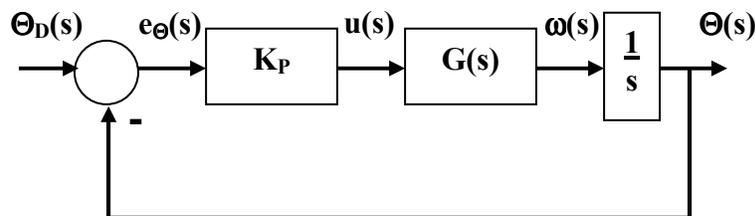
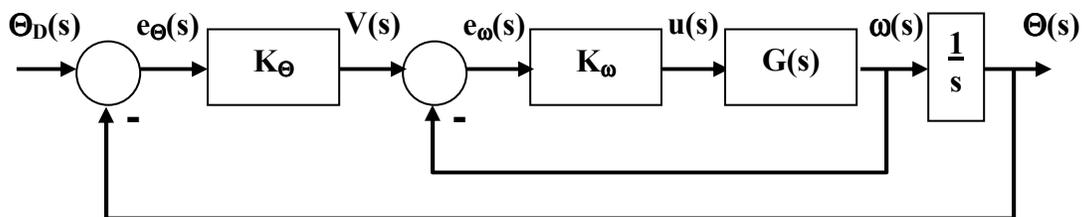

Figure 1: Single Loop Proportional Controller
Figure 2: Two Loop Cascade Position Controller
Generally speaking, when one is controlling a system with a single feedback loop (Figure 1), as controller gain is increased the steady state performance improves, the disturbance immunity improves, and the transient performance also improves. However, a value of gain is usually reached where further increases cause the transient performance to deteriorate in the sense that the controlled output—in responding so fast—overshoots the set point and may even exhibit a decaying oscillation about the set point, particularly when disturbed. Once that gain value is reached, a tradeoff exists—as gain is increased further—between a reduced steady state error and disturbance immunity on the one hand, and deteriorating transient performance on the other. If gain adjustments for a given single loop controller cannot produce both acceptable steady state error, immunity to external disturbance, and transient response, a different controller (generally more complicated, Figure 2) must be used.
You should come into the lab with a clear understanding of how to determine the closed loop transfer function for the single loop and cascade loop systems of Figure 1 and Figure 2. You should also be familiar how to construct set point profiles in Simulink.
- 1) Using the results of Experiment #2 and #4 in Figure 1, what is the transfer function $G(s) = \omega(s)/u(s)$ for the controlled system from the control $u(s)$ to velocity $\omega(s)$?
- 3) Referring to Figure 2: The velocity closed loop transfer function is $\omega(s)/V(s)$. If one
Controller: Set up a real-time control loop for controlling plate position with a two loop cascade controller as shown in Figure 2. Then first, disconnect the output of the position loop gain block, K_{θ} , to the summation block, this will allow you to tune the velocity loop separately. Use a velocity step input $V(t) = \omega_D(t) = 180 \text{ rpm}$ as the desired velocity. Use a two-input **MUX** block feeding a scope block so you can observe both the set point change and the response on the same scope. Once you think you have the proper set-up, **ASK THE INSTRUCTOR TO CHECK IT OUT BEFORE APPLYING POWER TO THE MECHANISM**. Tune the velocity loop to achieve maximum performance with critical damping. (no overshoot of the actual velocity, $\omega(t)$)